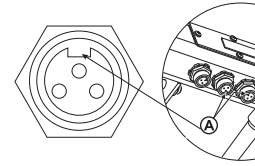

Figure 11. Female Connector
- b. Locate the slot or key (A) on each female connector as shown in Figure 11.